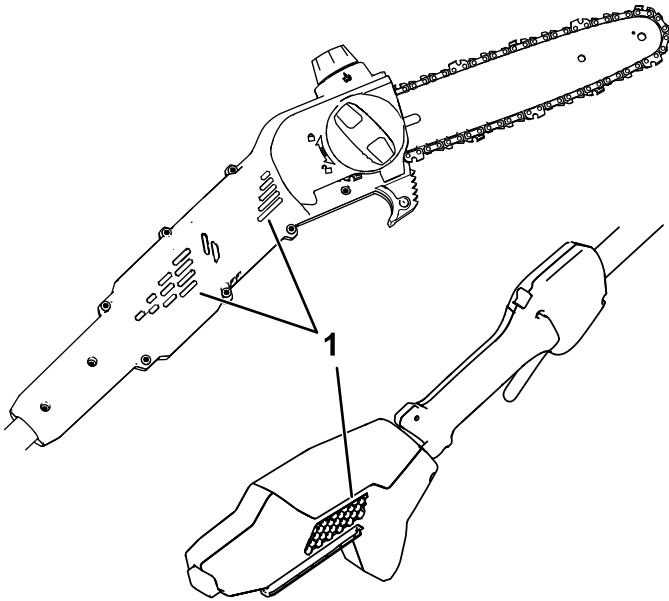

Figure 9
1. Ensure that the vents on the pole saw are free from dust and debris (Figure 9).